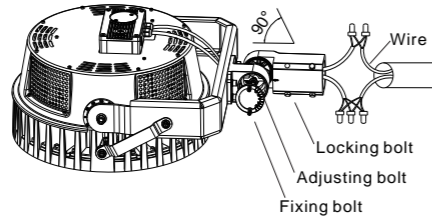

Figure 13
1. Loosen the 4 locking bolts on the slip fitter, connect the wire correctly and put the wire into pole. Then fasten the locking bolts between slip fitter and the pole. (Figure 13)
Notice: Adjustable angle is 0-90° (Figure 13).